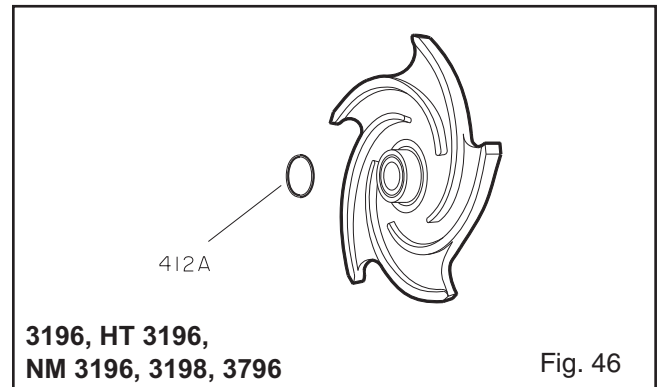

Fig. 46
- Remove impeller O-ring (412A) and discard (Fig. 46, 47, 48). Replace with a new o-ring during reassembly.
7. Remove impeller O-ring (412A) and discard (Fig. 46, 47, 48). Replace with a new o-ring during reassembly.
**NOTE:** It is recommended that the frame foot (241) be clamped to the workbench when using this method to remove the impeller.